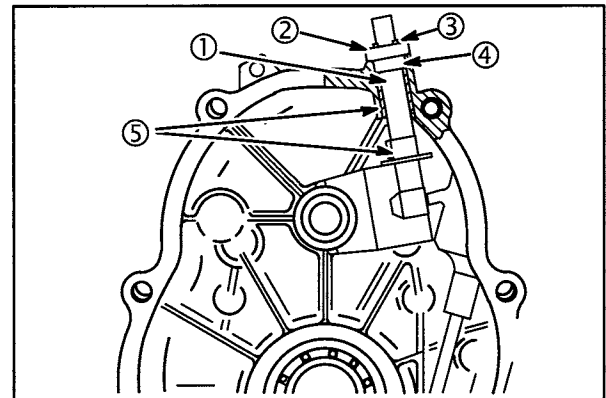

**Fig. 7**
1. Governor spool (3) must move freely on PTO journal of camshaft, **Fig. 7**. Replace if spool sticks or bearing is damaged.
2. Flyweights (2) must move freely on hinge pins (1). Replace camshaft if hinge pins are loose or governor spool does not move freely on journal.